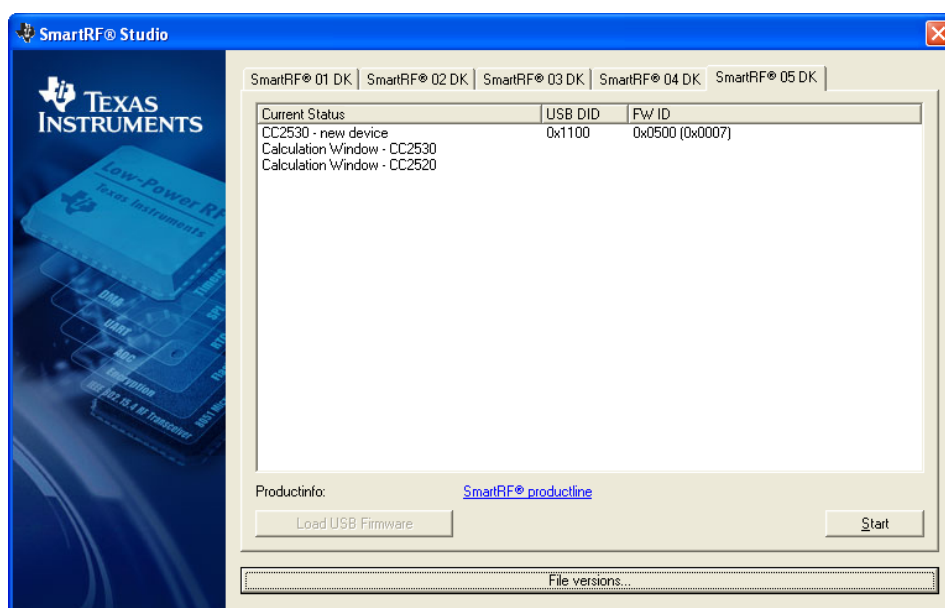

Figure 2 - CC2530 and SmartRF Studio
- Double click on both of the devices in the device list in SmartRF Studio (Figure 2), opening two windows, giving control of the two radios at the same time.